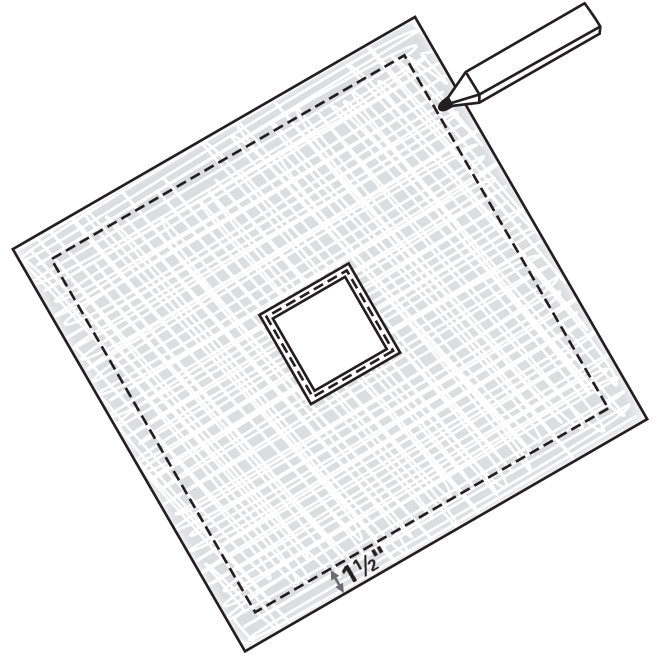

Fig. 2-5
6. Use the fabric marker and draw a line $1\frac{1}{2}$ inches (3.8 cm) from the outer edge of the fabric. Stitch along the line. To ensure sharp corners, be sure to stop stitching with the needle in each corner, pivot, and continue stitching. (Fig. 2-5)